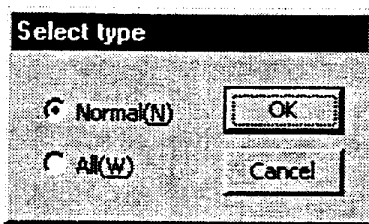

Figure 7.45 "Select type" dialog box
Click "Download (D)" in the "Index TypeB Menu" to display the "Select type" dialog box (see Figure 7.45).